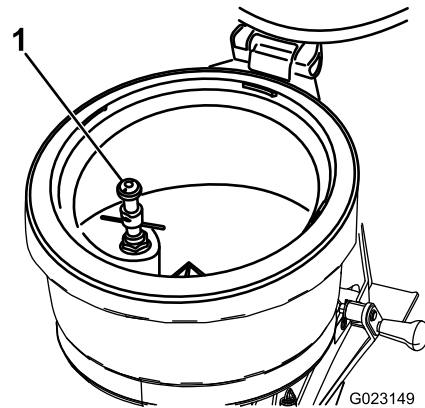

Figure 34
The bottle rinse (Figure 34) is located inside the eductor tank. Use the bottle rinse to remove chemical residue from the inside of the container (bottle) in which the chemical is packaged. The bottle rinse is pressurized with solution from the spray system. The chemical container (bottle) is rinsed with spray-system solution discharged at the spout of the bottle rinse.
- A. Place the rim of the container over the bottle rinse and press down to open the valve; refer to Figure 34 in Bottle Rinse (page 19).